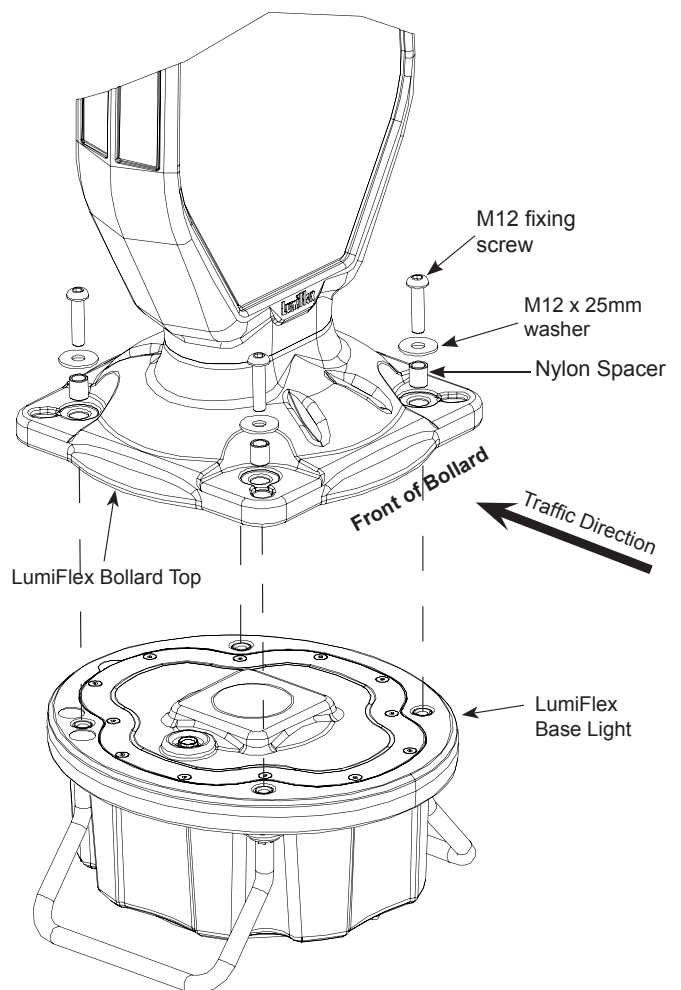

Fig. 1
3. Replace the four dome head socket screws, ensuring that washers and spacers are used as shown (Fig 1)